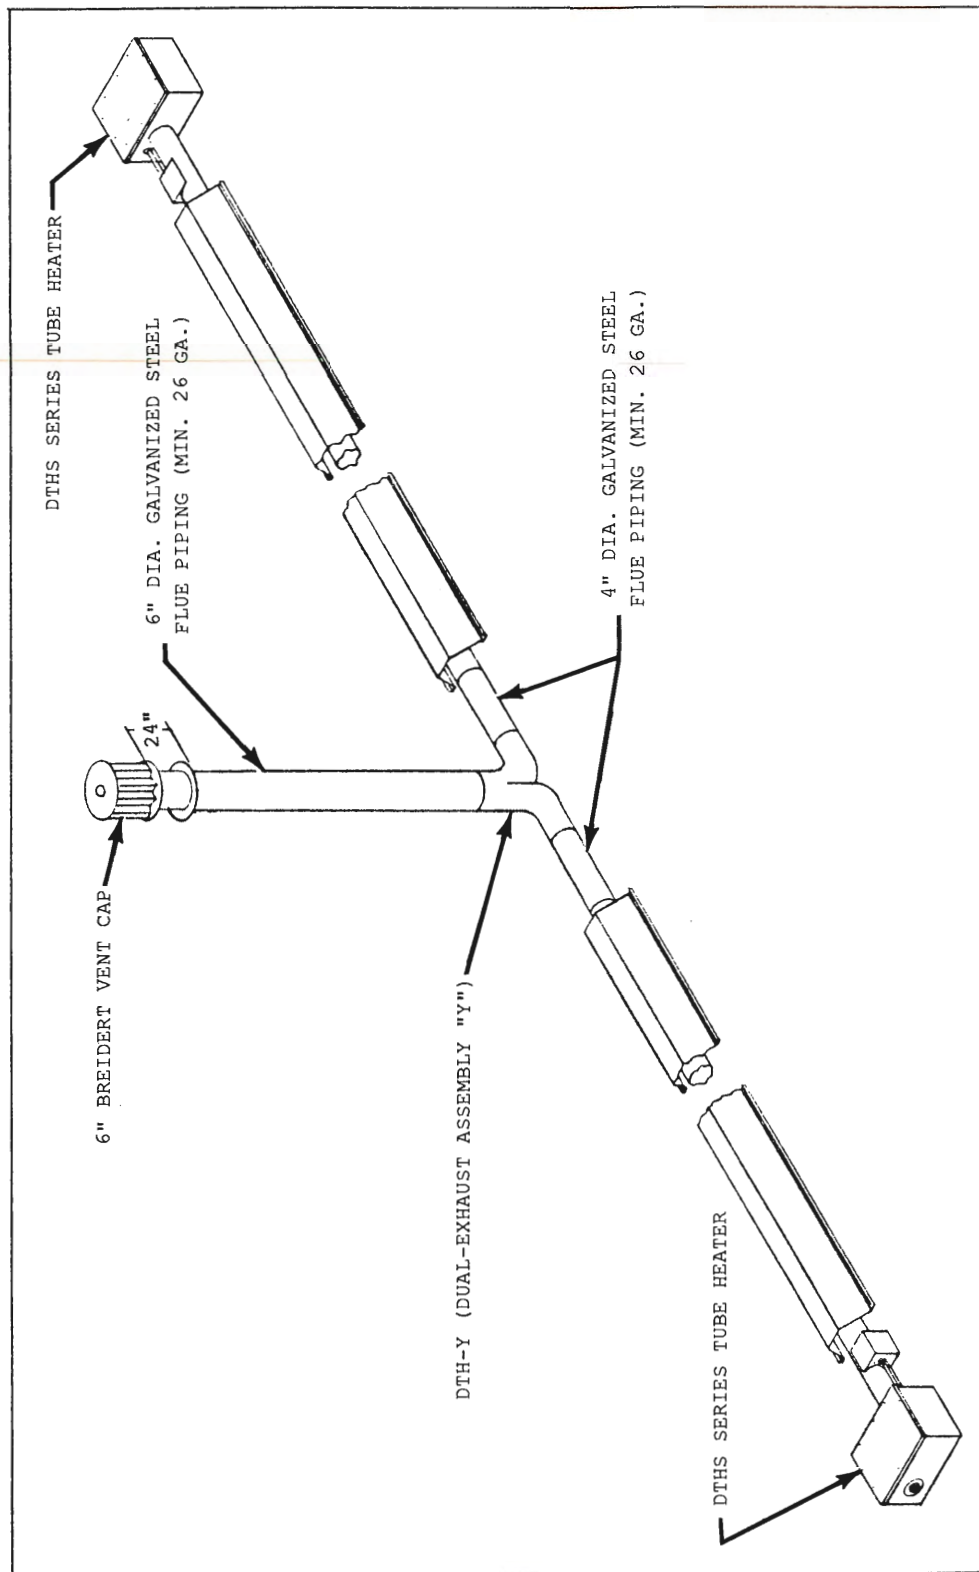

Figure 2-17
5. A common flue of 6 in. diameter may be used for double-venting of units. Allow one thermostat to control both units. When common venting is used, flues should be connected so that the by-products of one heater cannot flow into the adjoining flue of the other heater. A dual-exhaust assembly is available from the manufacturer; P/N DTH-Y or DTH-RT (See Figures 2-17 through 2-19).